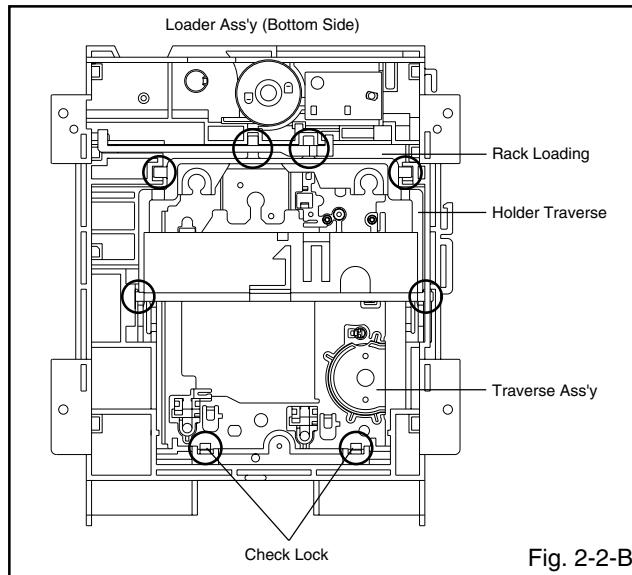

Fig. 2-2-B
1. In case of the Traverse Ass'y, install it from (1) to (4) in order. (Refer to Fig. 2-2-B)
2. In case of the Traverse Ass'y installation, hook the wire on the Loader Ass'y as shown Fig. 2-2-C.